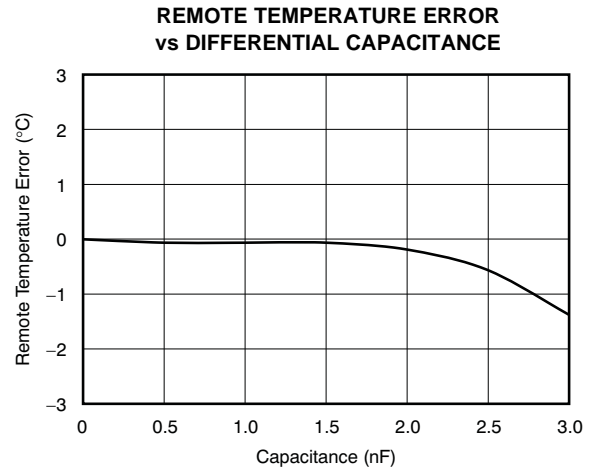

Figure 6.
(3) C_{DIFF} (optional) should be $< 1000\text{pF}$ in most applications. Selection of C_{DIFF} depends on application; see the Filtering section and Figure 6, Remote Temperature Error vs Differential Capacitance.
- (1) Diode-connected configuration provides better settling time. Transistor-connected configuration provides better series resistance cancellation.
- (2) R_S (optional) should be $< 1.5k\Omega$ in most applications. Selection of R_S depends on application; see the Filtering section.
- (3) C_{DIFF} (optional) should be $< 1000pF$ in most applications. Selection of C_{DIFF} depends on application; see the Filtering section and Figure 6, Remote Temperature Error vs Differential Capacitance.
- (4) TMP422 SMBus slave address is 1001 100 when connected as shown.
The TMP421/22/23 tolerate differential input capacitance of up to 1000pF with minimal change in temperature error. The effect of capacitance on sensed remote temperature error is illustrated in Figure 6, *Remote Temperature Error vs Differential Capacitance*.